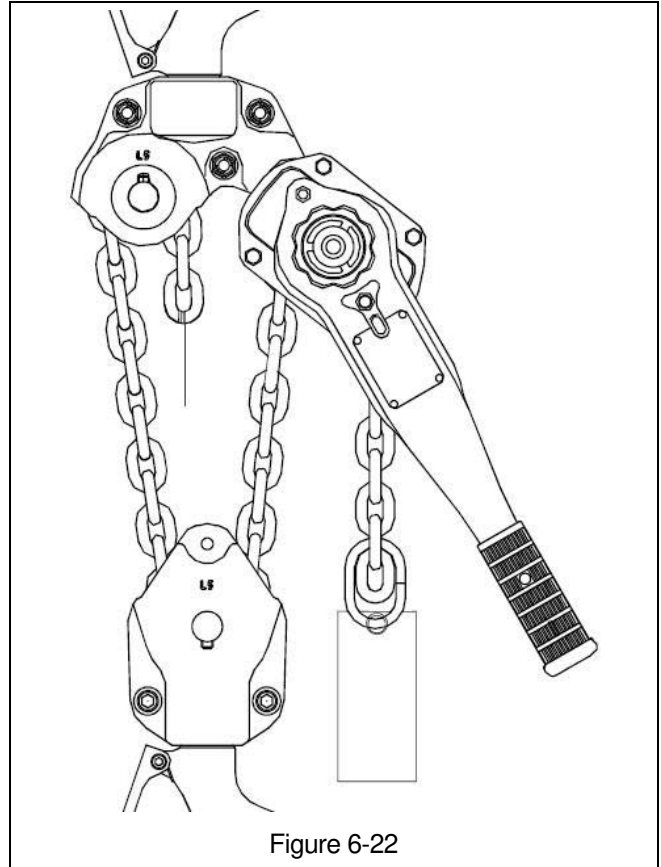

Figure 6-22
- 6.5.11.3 Attach the load chain to the wire in the top hook block and pull it around the idle sheave so that the end of the chain will exit the idle sheave towards the center of the bottom hook block. Refer to Figure 6-22.